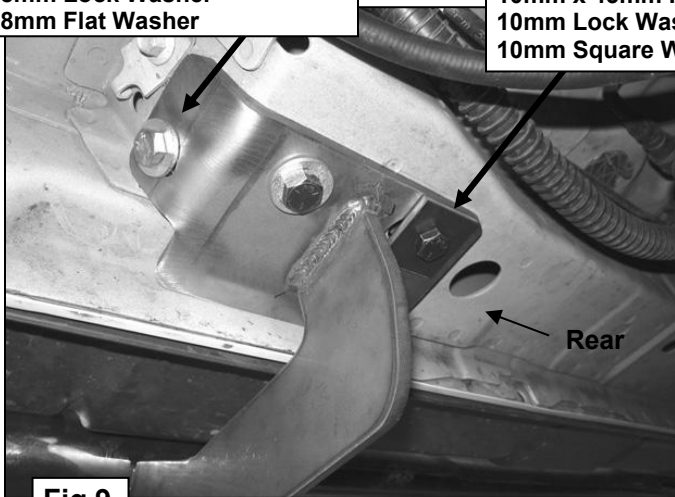

Fig 9
8. Position the driver side rear Mounting Bracket up to the vehicle. Insert (1) 10mm x 45mm Hex Bolt with (1) 10mm Flat Washer and (1) 10mm Lock Washer through the Mounting Bracket, small round hole and into the Double Nut Plate. Insert (1) 10mm x 45mm Hex Head Bolt, (1) 10mm Square Washer and (1) 10mm Lock Washer through the Mounting Bracket, large oval hole and into remaining nut in the Double Nut Plate, **(Figure 9)**. Do not tighten at this time.
9. **2008 Escape driver side rear Mounting Bracket installation only:** Use (1) 8mm x 25mm Hex Head Bolt, (1) 8mm Flat Washer, and (1) 8mm Lock Washer to attach the driver side Mounting Bracket to previously removed rubber plug location. You will not be using this 8mm bolt on the driver side of the Mazda Tribute or 09 Escape.